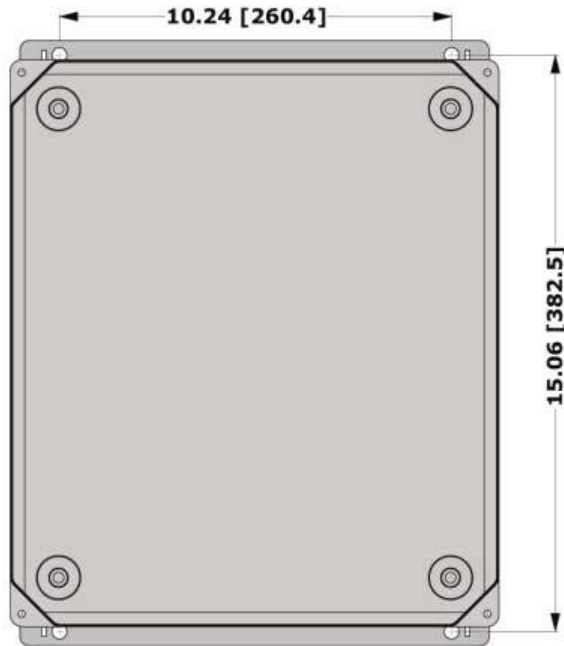

Figure 4-1: M465M Mounting Hole Locations and Dimensions
- Figure 4-1 shows the locations of the four mounting holes.